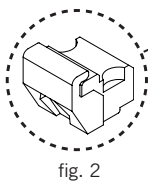

fig. 2
- 3° Once the fast plate is in the flush position with the slow plate, fix the synchronization cord (fig. 2).
Guide shoes (fig. 1) and hangers (fig. 2) installation in panel procedure.